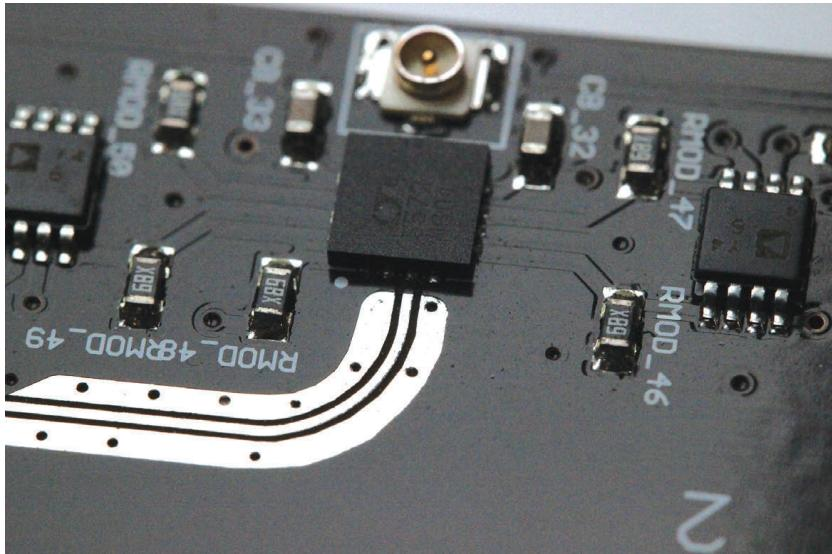

Figure 6-2: A small amount of solder mask prevents the IC pad's solder paste from wicking down the coplanar waveguide that it's feeding.
**Remove solder mask with care.** If you decide to remove solder mask from parts of your PCB that contain ICs, try leaving a few mils of solder mask around the component footprint(s). This will help prevent solder paste from wicking off the pads and onto the surrounding exposed copper. For example, in Figure 6-2, solder mask has been pulled back from over top of a coplanar waveguide but not all the way up to the pin of the chip.